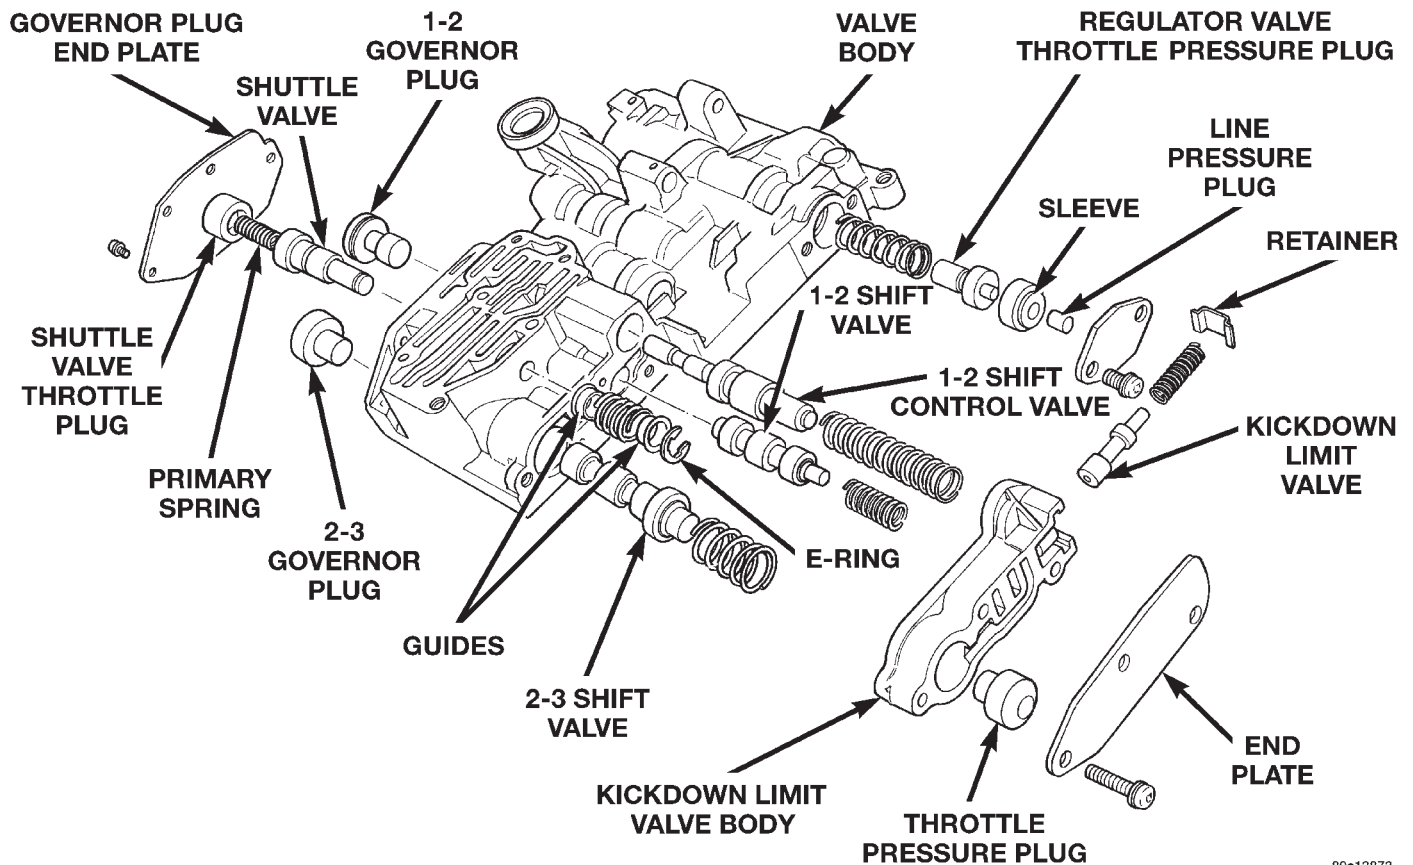

Fig. 57 Control Valves, Shift Valves, And Governor Plugs
(23) Remove governor plug end plate (Fig. 57).
- (24) Remove 1-2 and 2-3 shift valve governor plugs from valve body (Fig. 57).
- (25) Remove shuttle valve throttle plug, primary spring and shuttle valve from valve body (Fig. 57).
- (26) Remove screws attaching kickdown limit valve body to valve body (Fig. 57).
- (27) Remove 1-2 shift control valve and spring from valve body (Fig. 57).
- (28) Remove 2-3 shift valve and spring from valve body (Fig. 57).
- (29) Remove 1-2 shift valve and spring from valve body (Fig. 57).
- (30) Remove throttle pressure plug from kickdown limit valve body (Fig. 57).
- (31) Remove retainer from end of kickdown limit valve body (Fig. 57).
- (32) Remove kickdown limit valve and spring from kickdown limit valve body (Fig. 57).
- (33) Remove regulator valve end plate from valve body (Fig. 57).
- (34) Remove regulator valve line pressure plug, pressure plug sleeve, regulator valve throttle pressure plug and spring (Fig. 57).
(1) Lubricate valve body bores, valves and plugs with Mopar® ATF Plus 3, Type 7176, transmission fluid.
(2) Install regulator valve line pressure plug, pressure plug sleeve, regulator valve throttle pressure plug, and spring into valve body (Fig. 57). Verify valve components slide freely.
(3) Install regulator valve end plate on valve body (Fig. 57).
(4) Install kickdown limit valve and spring in kickdown limit valve body (Fig. 57). Verify valve components slide freely.
(5) Compress spring into kickdown limit valve body.
(6) Install retainer in grooves at end of kickdown limit valve body (Fig. 57).
(7) Install throttle pressure plug in kickdown limit valve body (Fig. 57).
(8) Install 1-2 shift valve and spring into valve body (Fig. 57).
(9) Install 2-3 shift valve and spring into valve body (Fig. 57).
(10) Install 1-2 shift control valve and spring into valve body (Fig. 57).
(11) Verify valve components slide freely.
(12) Place kickdown limit valve body and end plate in position on valve body and compress springs (Fig. 57).
(13) Install screws to attach kickdown limit valve body to valve body (Fig. 57).
(14) Install shuttle valve throttle plug, primary spring and shuttle valve into valve body (Fig. 57). Verify valve components slide freely.
(15) Install 1-2 and 2-3 shift valve governor plugs into valve body (Fig. 57). Verify valve components slide freely.
(16) Place governor plug end plate in position on valve body and compress spring.
(17) Install screws to attach governor plug end plate to valve body (Fig. 57).
(18) Assemble shuttle valve spring and guides (Fig. 57). Place spring and guides in position on shuttle valve stem.